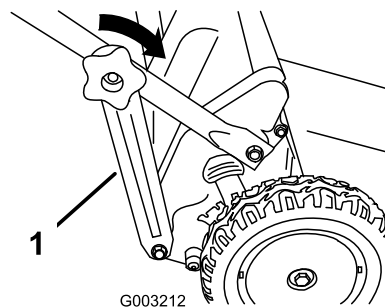

Figure 6
5. Attach the handle brackets (Figure 6) to the lower handle sides.